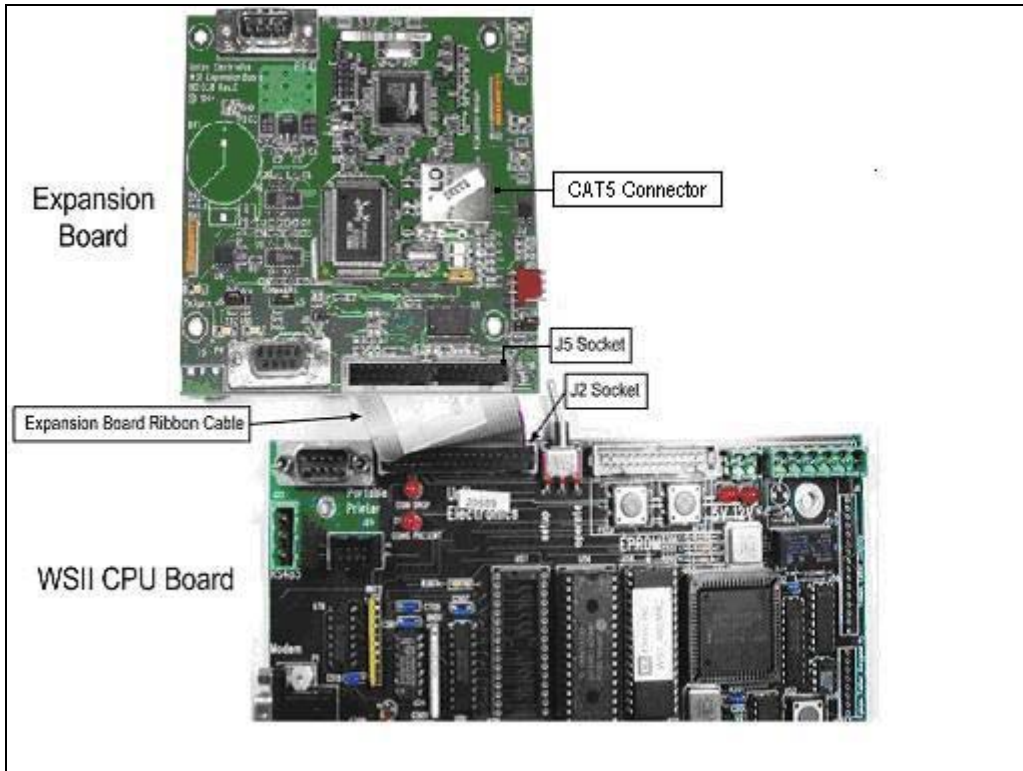

Figure 10. Ethernet Cable Wiring Inside the Wash Select II
3. Thread the power cord (with the 3 exposed conductors) through the hole in the bottom of the line insulator. Continue to feed it through until about $\frac{1}{2}$ " of outer insulation is protruding through the top. (See Figure 10)